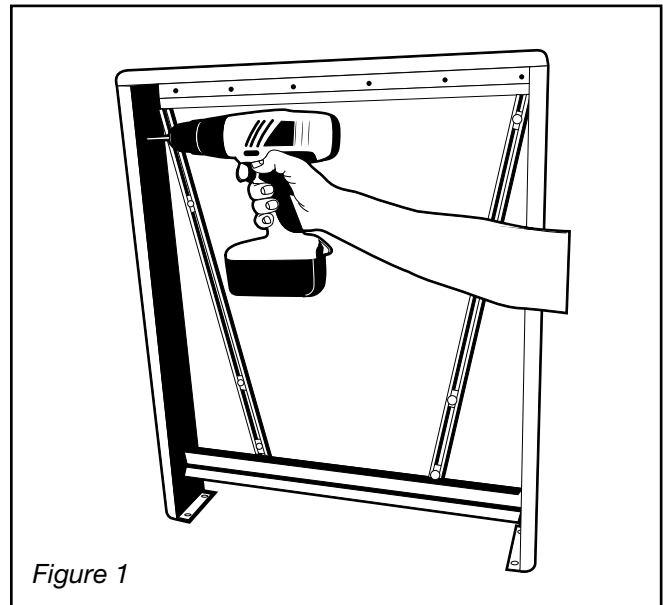

Figure 1
7. Using an 1/8" drill bit, drill the metal enclosure for the mounting screws (typically this would be done top and bottom of each side). See Figure 1.